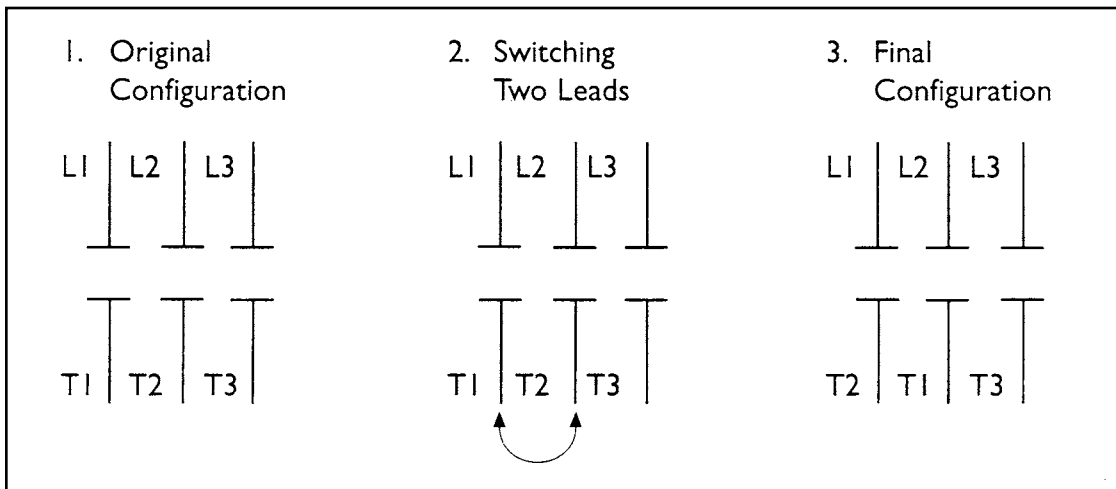

Figure 3.6
- B. Stop the pump and interchange any of the two leads (Figure 3.6, Changing Motor Rotation).